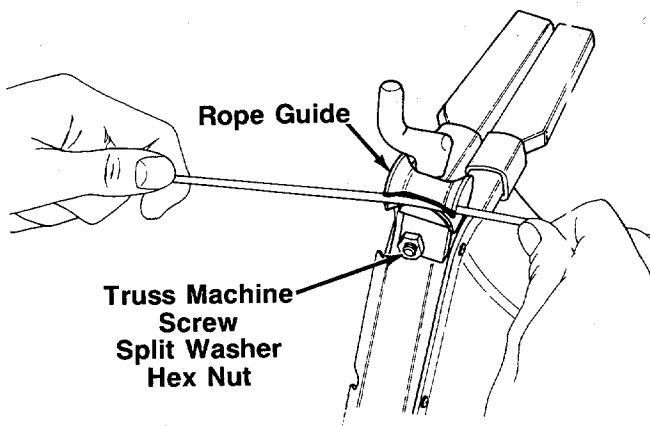

FIGURE 4.
- c. Slip the starter rope into the rope guide as shown in figure 4.